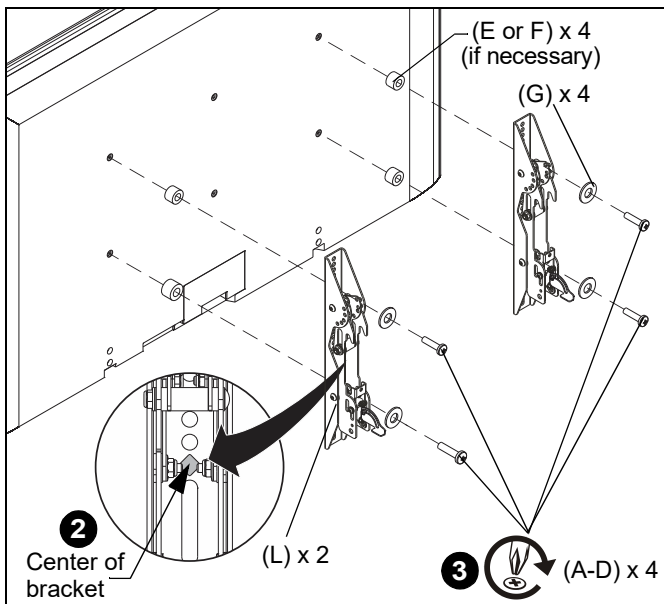

Figure 5
2. Align the center of the interface bracket (L) with center of screen. (See Figure 5)
3. Select correct screws, spacers (if necessary) and universal washers from the hardware bag (A-G) and attach brackets (L) to back of screen. (See Figure 5)